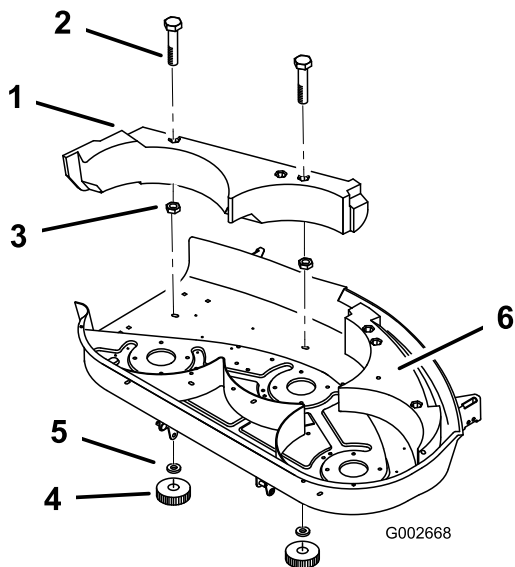

Figure 18
2. Remove the knobs and curved washers from the right side baffle (Figure 18).
- Install the right side baffle to the mower with knobs and curved washers (Figure 18) removed in Step 2.